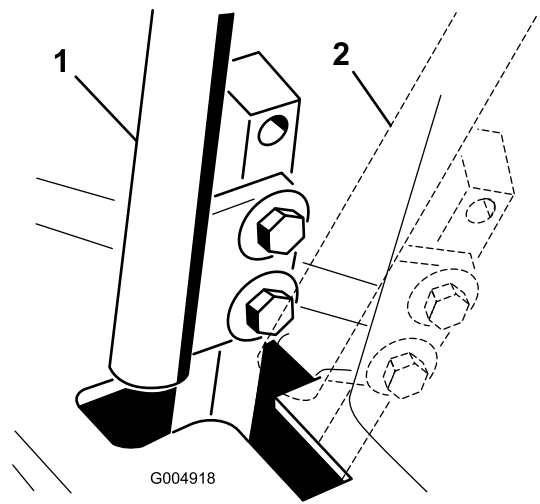

Figure 79
4. Move the control lever to the NEUTRAL position but **not locked** (Figure 79).
6. Check where the control lever is relative to notch in the console (Figure 79).